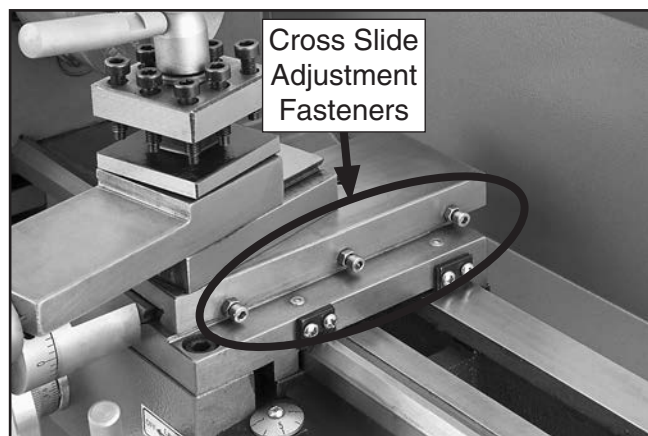

Figure 82. Cross slide gib adjustment hex nuts and cap screws.
2. Loosen three hex nuts on side of cross slide or compound slide (see **Figures 82–83**).